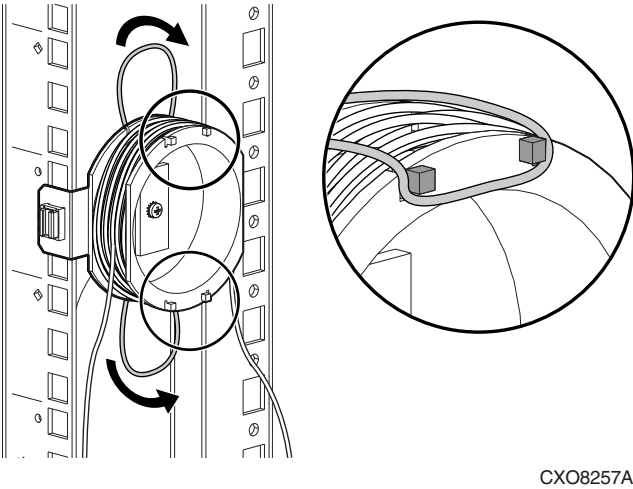

Figure 4: Securing the cables on the spool
5. Secure the cables to the spool by snapping the rubberbands into place, as shown in Figure 4.